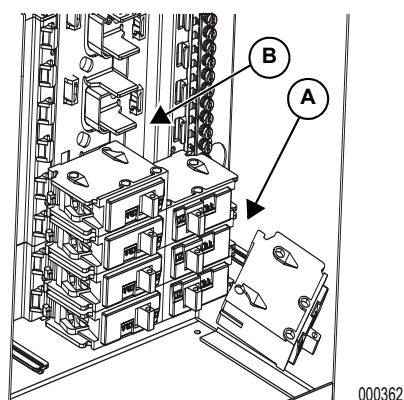

Figure 3-1. Installing Breakers
See Figure 3-1. Insert the tab on the breaker (A) into the hook on the bus (B). Push the breaker into the bus until it snaps into place.